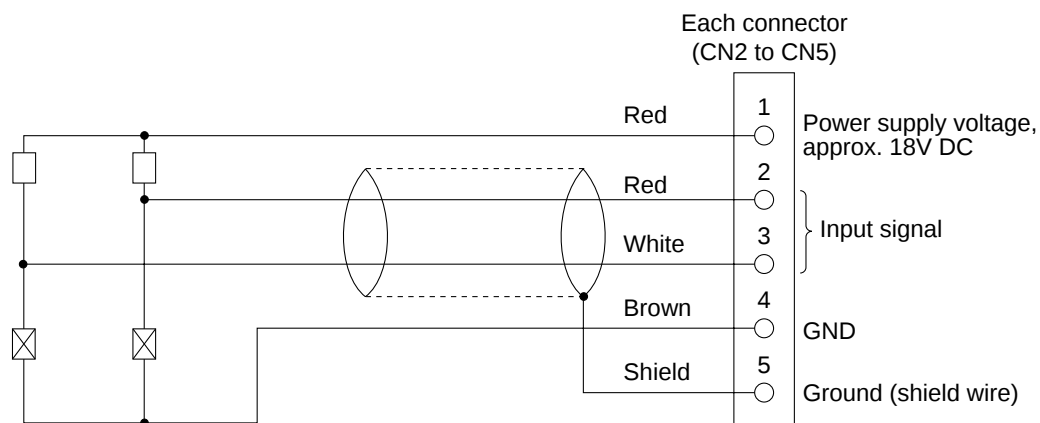
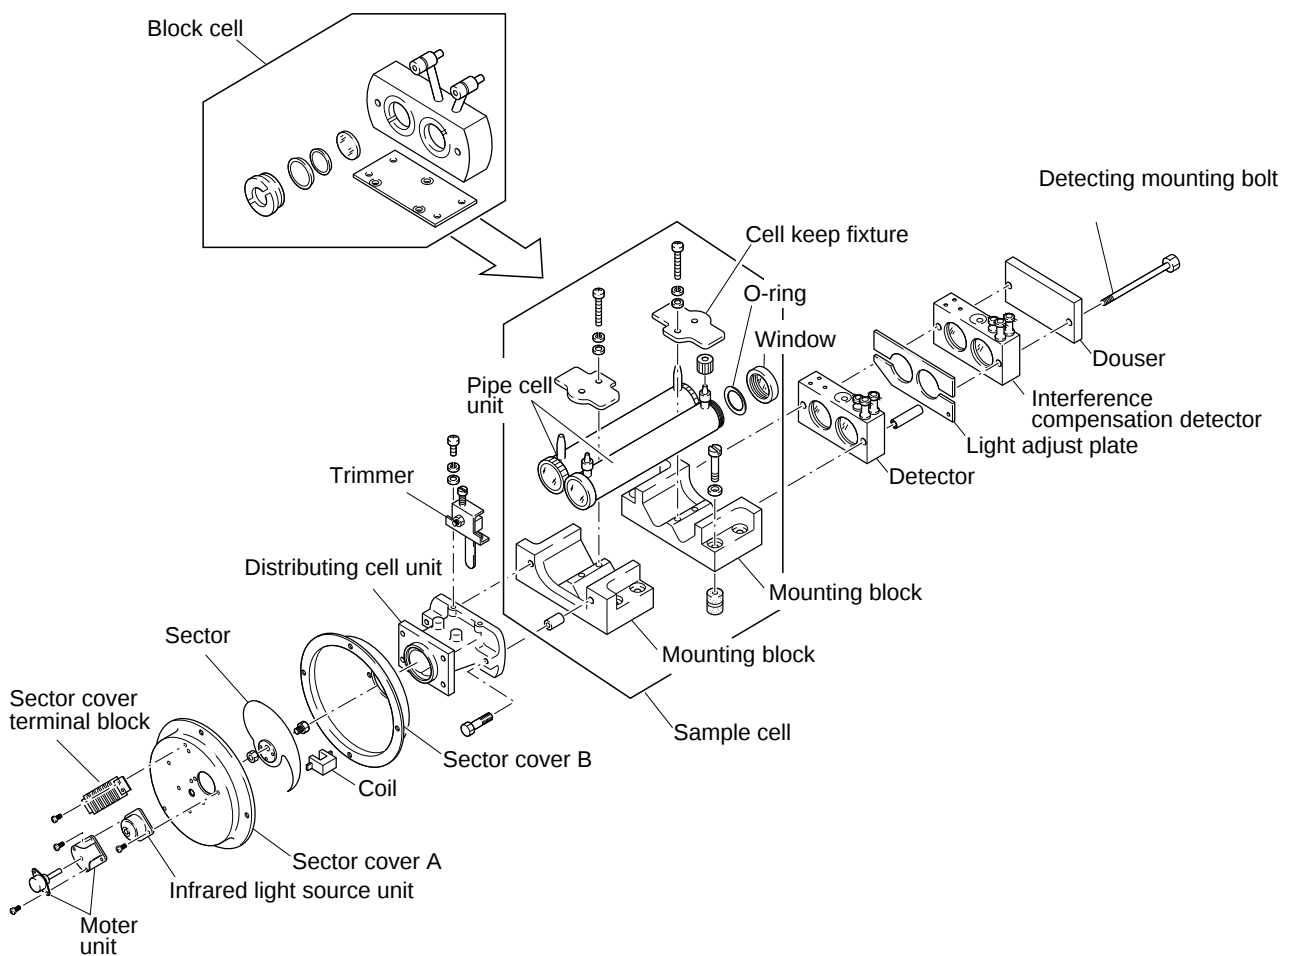

Fig. 7-1
Fig. 7-3 Optical system assembly drawing
- Check : (1) Check if the infrared supply voltage is $20 \pm 0.2\text{V}$ DC between ① and ② on the sector cover terminal block. If not, check the power supply voltage on the main printed circuit board (see section 6.5).
- (2) Disconnect the light source terminals from the sector cover terminal block, and check its resistance value. The resistance value should be approx. 18Ω . If this value deviates greatly, the light source may be deteriorated or disconnected. Replace the light source.
- Replacement : (1) Disconnect the light source terminals from the sector cover terminal block, and remove the light source unit mounting screws (2pcs), then light source will be able to be replaced. See Fig. 7-3.
- Check : (1) Confirmation of detector supply voltage
Check the voltage between pins ① and ④ of each connector of CN2 to CN5 on the main printed circuit board 2 (see Fig. 7-1). The normal voltage should be within $18 \pm 0.3\text{V}$.
- (2) Confirmation of disconnection of mass flow sensor
Decouple each connector of CN2 to CN5 from the main printed circuit board, and check the resistance values between pins ② and ④, and between pins ③ and ④ (see Fig. 7-1). The normal value of each resistance should be within 25 to 50Ω .
- (3) Leak of detector seal gas
Replacement : The douser, interference compensation detector, light adjusting plate, and detector can be taken out simultaneously by removing the detector mounting bolts (2 pcs). See Fig. 7-3.
- Replacement : (1) Detach the covers A and B as shown in Fig. 7-3
(2) Remove the sector cover (B) and the distributing cell mounting screws (M4 × 2 pcs), and replace the distributing cell.